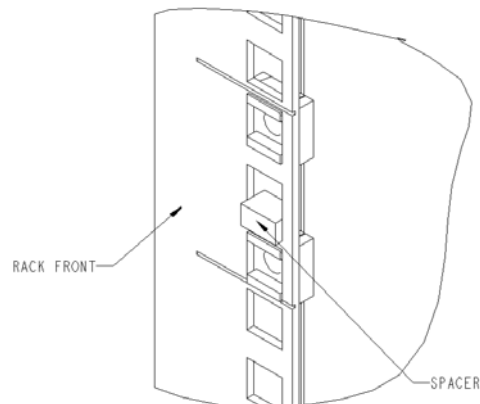

Figure 2-5. Installing the Tinnerman Nuts and Spacers (Compaq/Rittal Rack)
- For a Compaq/Rittal rack, install (2) #10-32 square Tinnerman nuts for each of the front columns of the rack in the top and bottom positions of the three-hole EIA pattern. Also install (1) spacer in the center position for each column on the front of the rack. See Figure 2-5.